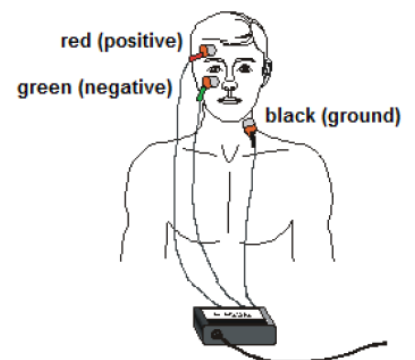

Figure 1
- Reading the electrical impulses generated by an eye blink is most easily accomplished by attaching the electrode tabs as shown in Figure 1.